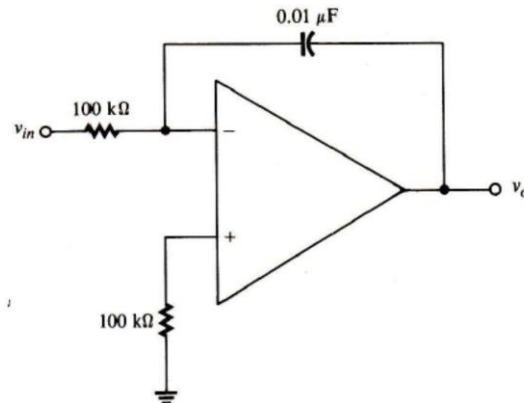

Fig. 2-20
- (a) Find the peak value of the output of the ideal integrator shown in Fig. 2-20. The input is  $v_{in} = 0.5 \sin(100t)$  V.